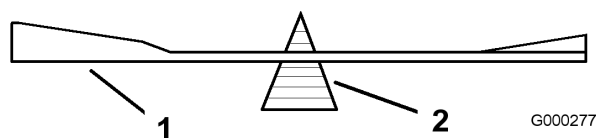

Figure 50
2. Check the balance of the blade by putting it on a blade balancer (Figure 50). If the blade stays in a horizontal position, the blade is balanced and can be used. If the blade is not balanced, file some metal off
the end of the sail area only (Figure 50). Repeat this procedure until the blade is balanced.